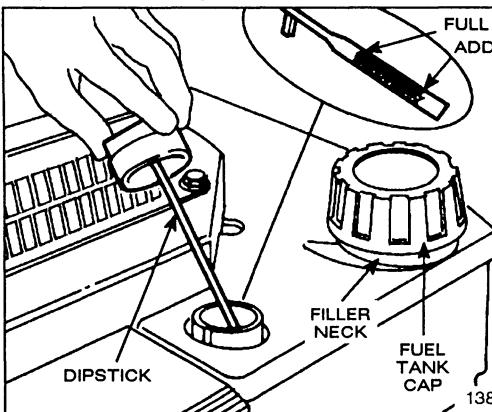

Figure 4
Before each use, assure oil level is between ADD and FULL marks on dipstick (Fig. 4). Add oil if level is low.
3. Wipe dipstick and insert it into filler neck. Rotate cap clockwise 1/4 turn. Then remove dipstick and check level of oil (Fig. 4). If level is low, add only enough oil to raise level to FULL mark on dipstick. **DO NOT FILL ABOVE FULL MARK BECAUSE ENGINE COULD BE DAMAGED WHEN STARTED.** POUR SLOWLY.
1. Clean around fuel tank cap and remove cap from tank (Fig. 4). Using unleaded gasoline, add fuel to 1/4" to 1/2" (6 to 13 mm) from top of tank, not into the filler neck. This space is for expansion of fuel. Do not fill the tank full.
1. **CHECK OIL LEVEL**—Maintain oil level between ADD and FULL marks as shown on dipstick (Fig. 4).